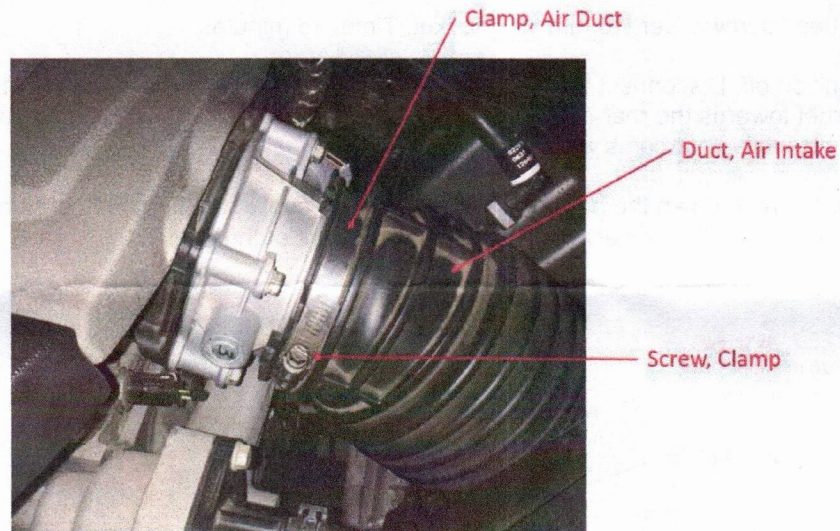

Figure 3. Throttle Body and mating components viewed from right (passenger) side.
- 4- Refer to figure 3. Loosen Duct Clamp screw and pull Intake Duct and Clamp away from Throttle Body.